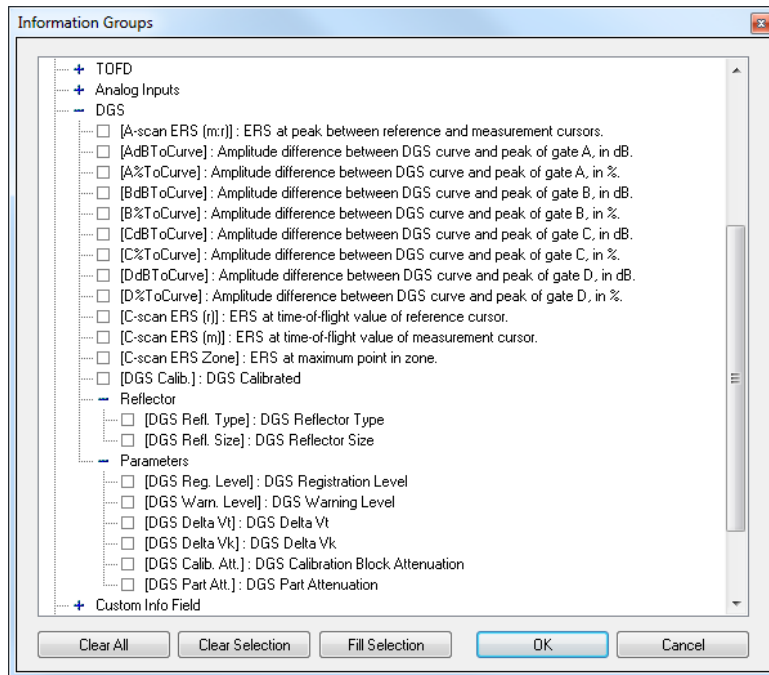

Figure 4-47 The DGS readings in the Information Groups dialog box
3. In the **Information Groups** dialog box (see Figure 4-47 on page 275):